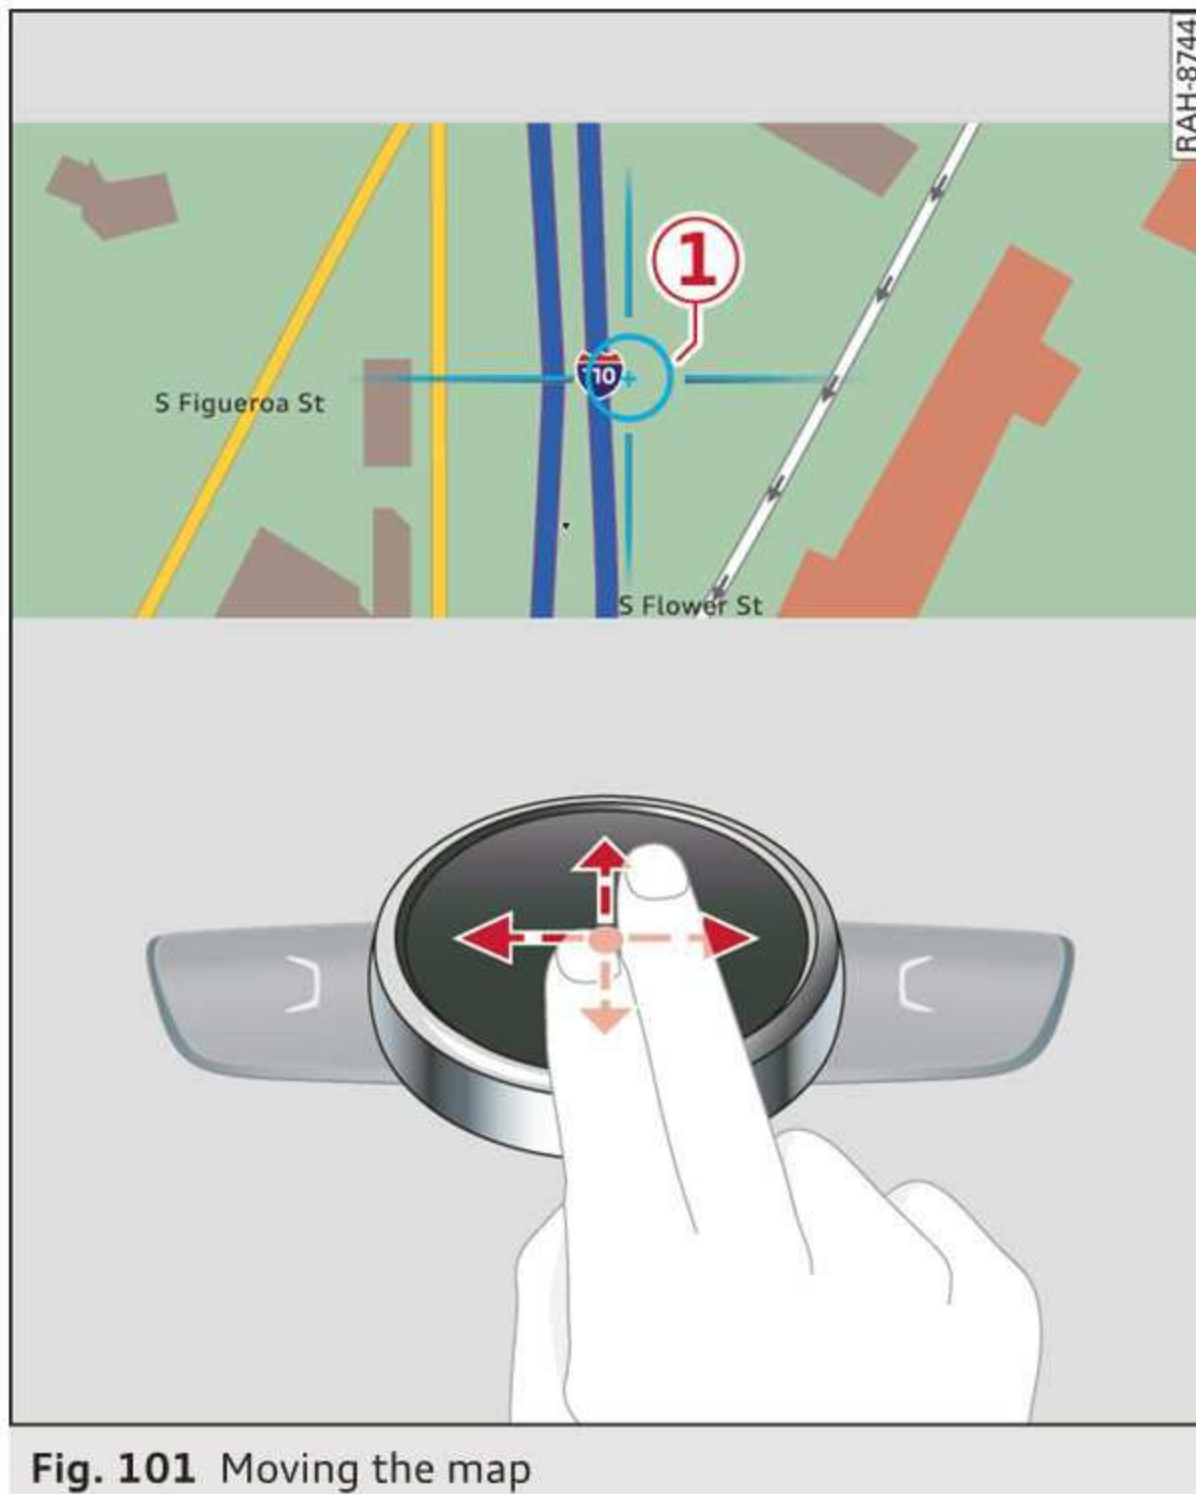

Fig. 101 Moving the map
- **Showing/hiding the crosshairs:** press the control knob to show the crosshairs ① ⇒ fig. 101.
- **Moving the map:** when the crosshairs are visible ① ⇒ fig. 101 pull two fingers in the desired direction across the MMI touch control pad ⇒ fig. 101.
- **Moving the map quickly:** when the crosshairs are visible ① ⇒ fig. 101, pull two fingers across the MMI touch control pad quickly in the desired direction ⇒ fig. 101. The map will come to a stop after several seconds.